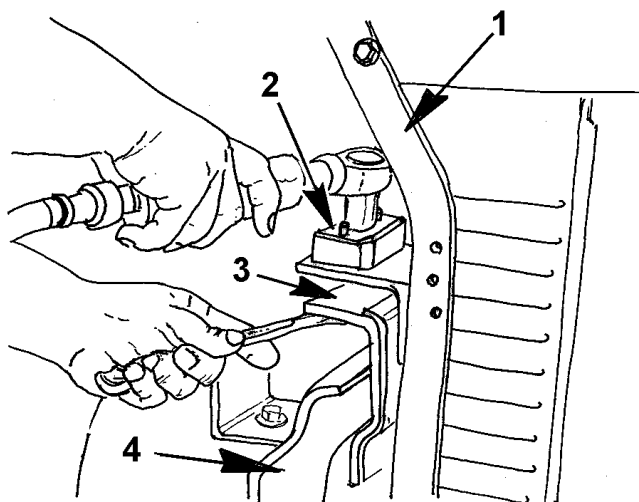

Figure 18 Radiator Mounting Bracket And Bushing (Passenger Side Shown)
3. Loosen and remove mounting bolts (Figure 18) from mounting bracket and bushing. Follow same procedure on driver side.